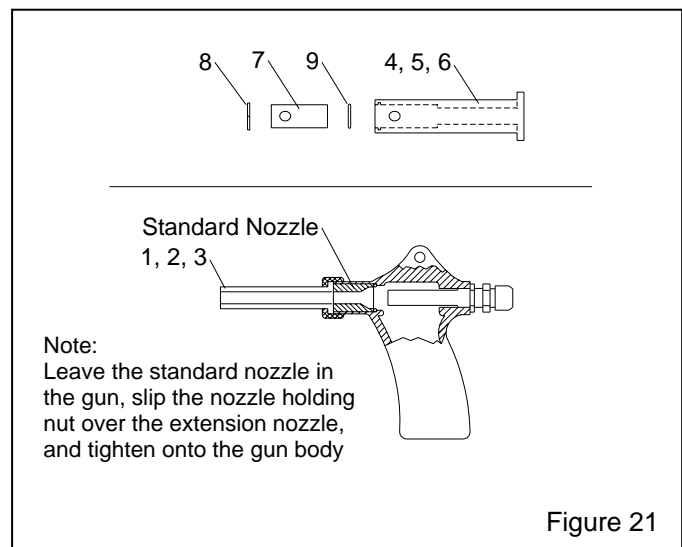

Figure 21
**Extension Nozzles, Figure 21**